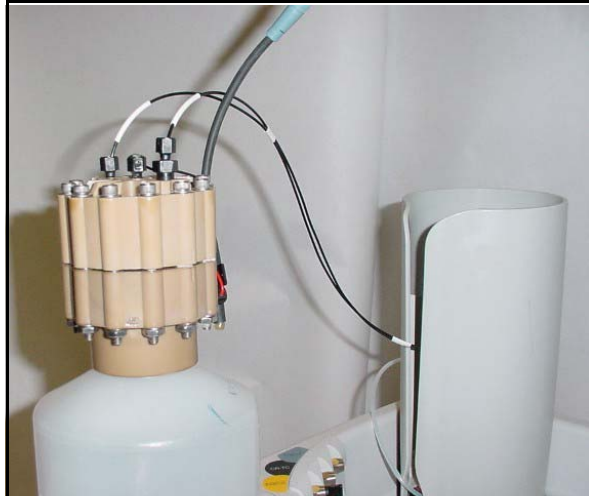

Figure 51. Dionex EGC Inlet and Outlet Connections
16. Connect the **EGC OUT** line to the **OUTLET** port (see Figure 51).